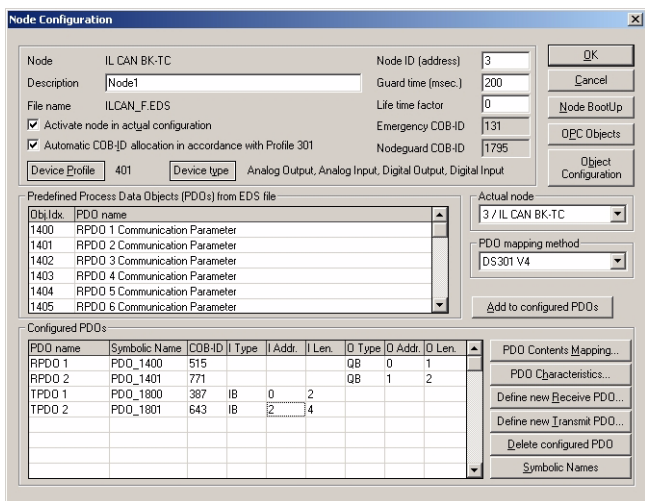

Figure 20 Assigning addresses
- In the "Node Configuration" window, click in the "O Addr." column for RPDO 2 in the list at the bottom and write a "1" instead of the "0" (see Figure 20).
- In the "Node Configuration" window, click in the "I Addr." column for TPDO 2 in the list at the bottom and write a "2" instead of the "0" (see Figure 20).